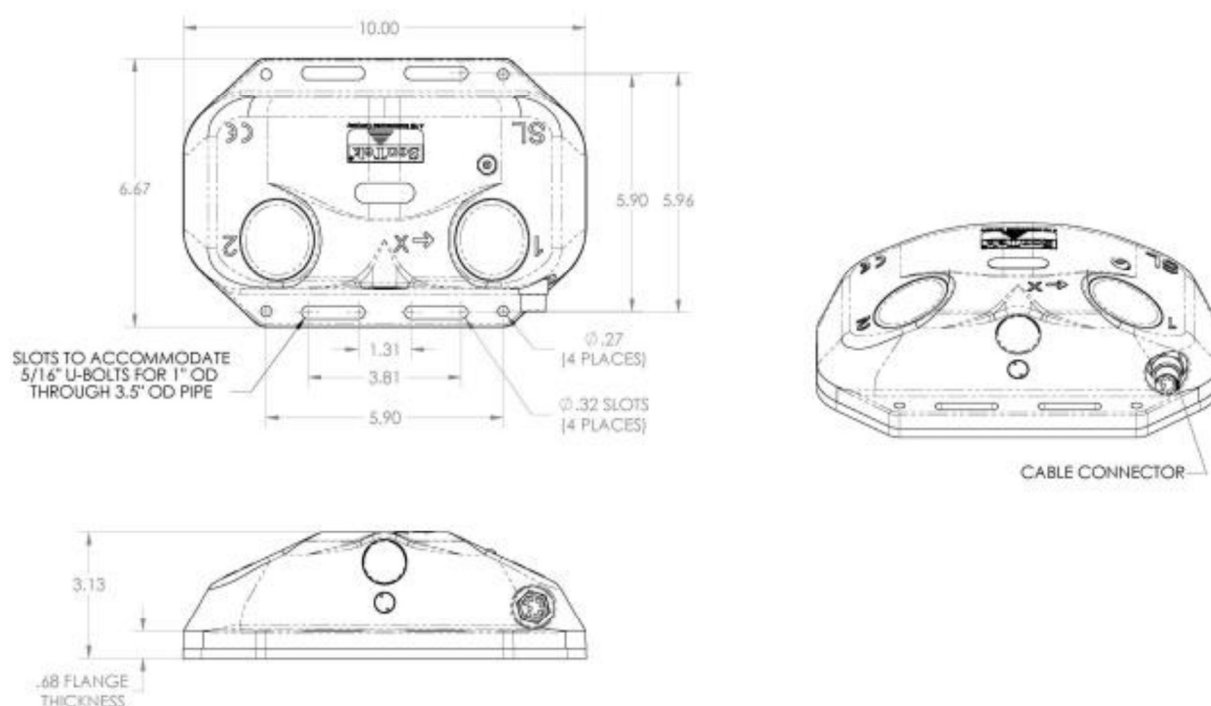

Figure 5-4. Low-Profile SL1500 dimensions (in inches)
- The SL1500 housing includes integral flanges and mounting holes. Figure 5-4 shows the SL1500 mounting holes and dimensions. All dimensions are in inches.